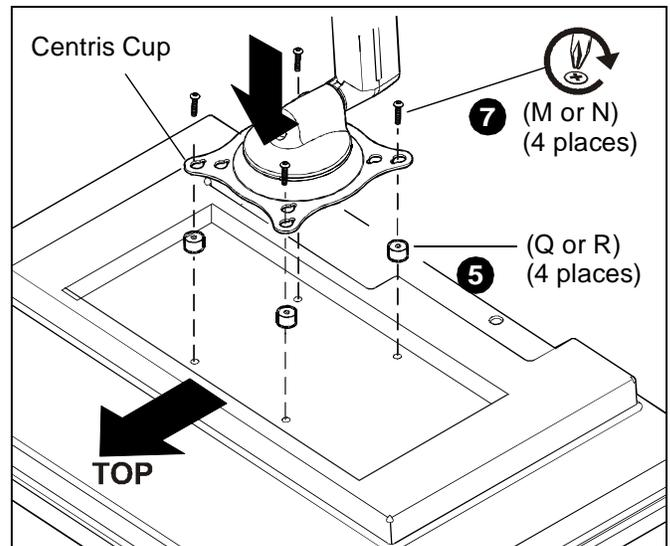

Figure 8
5. Place the four spacers (Q or R) over each mounting hole on the back of display. (See Figure 8)
6. Orient mount so that mounting holes in the Centris cup are aligned with the holes in the spacers (Q or R); rotate the Centris cup as required (See Figure 8).
7. Using Phillips screwdriver, install four screws (M or N) through the mounting holes in Centris cup, through the spacers (Q or R), into display (See Figure 8).